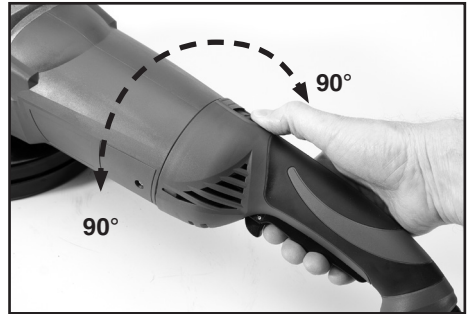

FIG.9
- Depress the rotating rear handle locking switch (6).
- Rotate the rear handle (2) 90° left or right from its normal central position (Fig.9).